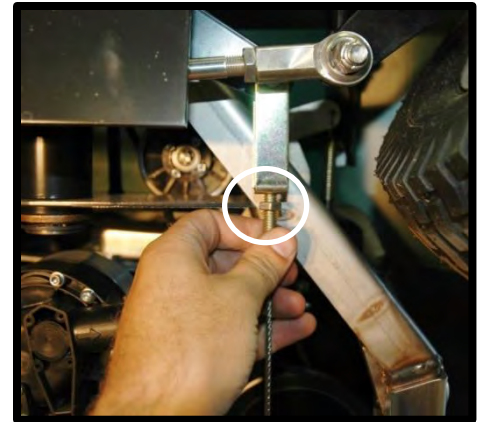

FIGURE 1: Steering cable clevis and locking nut
2. Find the clevis on the end of the steering cables (FIGURE 1).
2. Loosen the nut below the clevis and turn the cable clockwise to tighten (FIGURE 1)